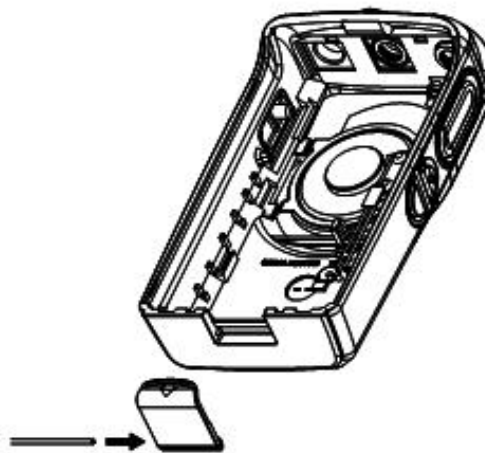

Figure 2-9
5. Slot the battery latch shaft into the latch (see “Figure 2-9”).